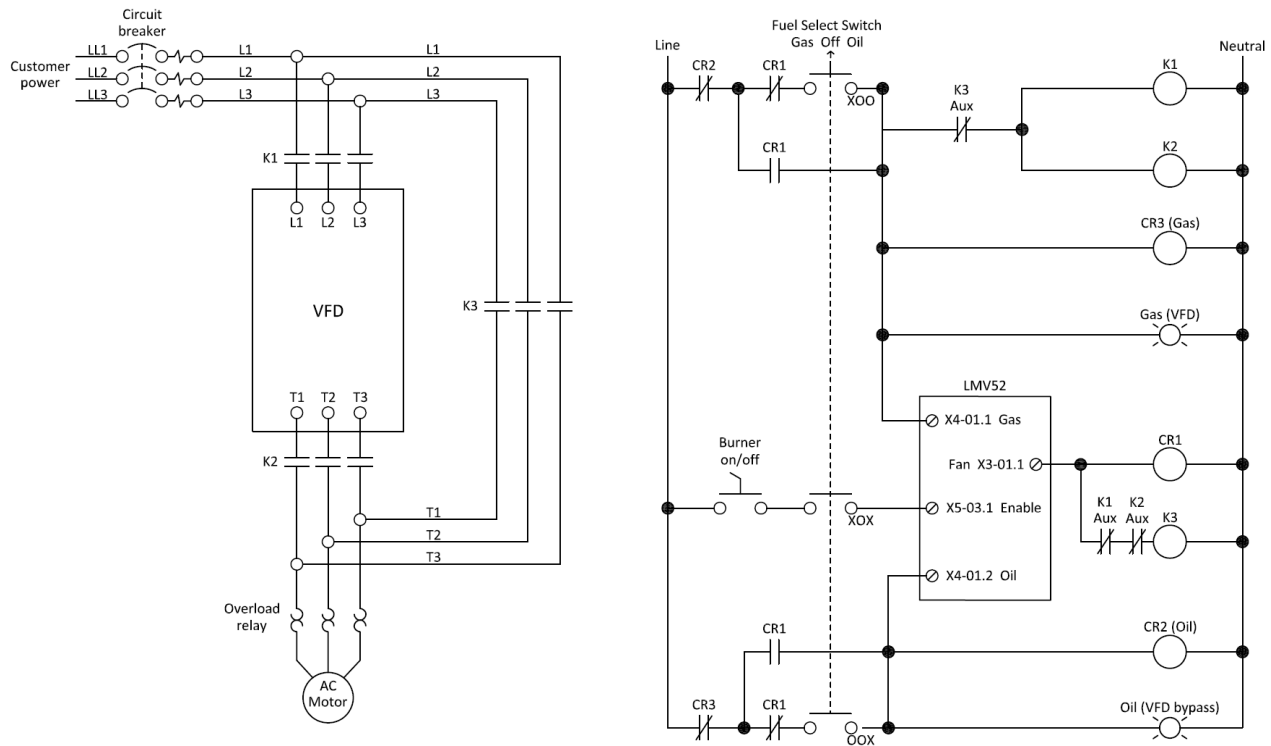

Figure 23: Wiring for a Dual Fuel VFD Bypass
1. Wire the LMV52, VFD, and motor contactors as shown in Figure 23.